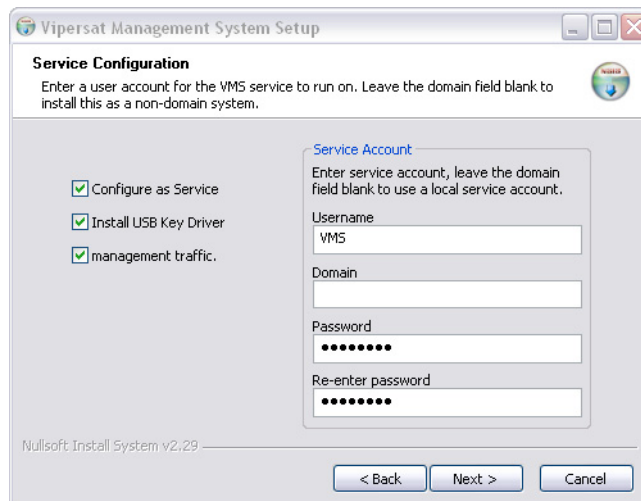

Figure 2-15 Service Configuration dialog
6. The Service Configuration defaults with all three boxes checked as shown in figure 2-15. It should be left this way.